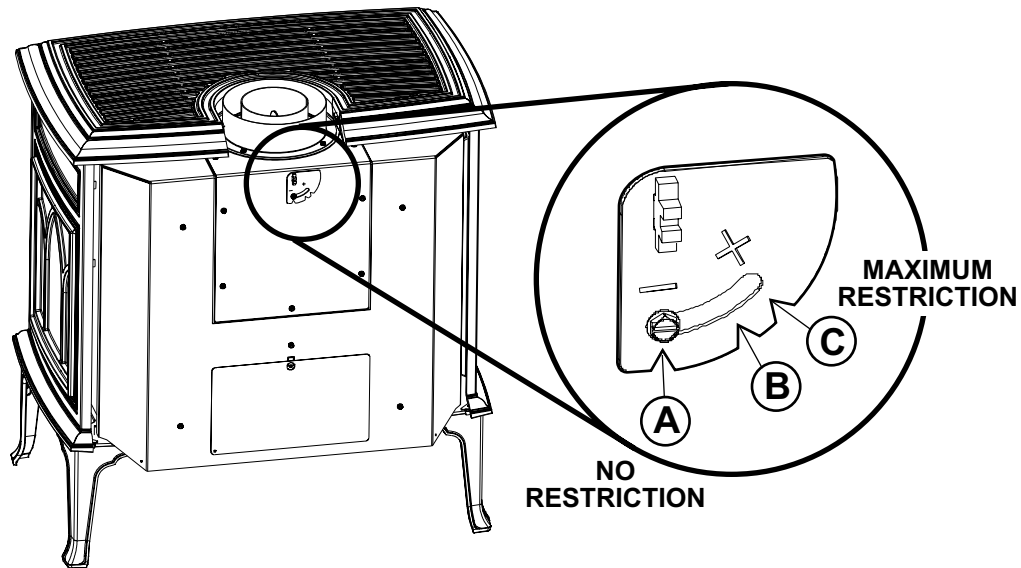

Figure 4.8. Use 1/4" socket driver to loosen the Exhaust Restrictor dial and adjust to the appropriate notch for your termination zone.
The Exhaust Restrictor is an adjustable plate located within the firebox exhaust outlet. It is adjusted by rotating the dial at the back of the stove within a range from the factory-set, fully open (no restriction) position to a fully restricted position. See Fig. 4.8. The Plus (+) and Minus (-) signs on the dial relate to degrees of restriction, from zero to approximately 70%. The three lettered positions correlate to the termination zones (A,B,C) diagramed in figure 15. Use the diagram to determine the degree of restriction and shutter setting you should use.
3. Locate the restrictor adjustment dial on the top of the exhaust outlet. Use a 1/4" nut driver to loosen the lock nut and pivot the dial to the position appropriate to your termination zone. See figs. 4.8 and 4.9.